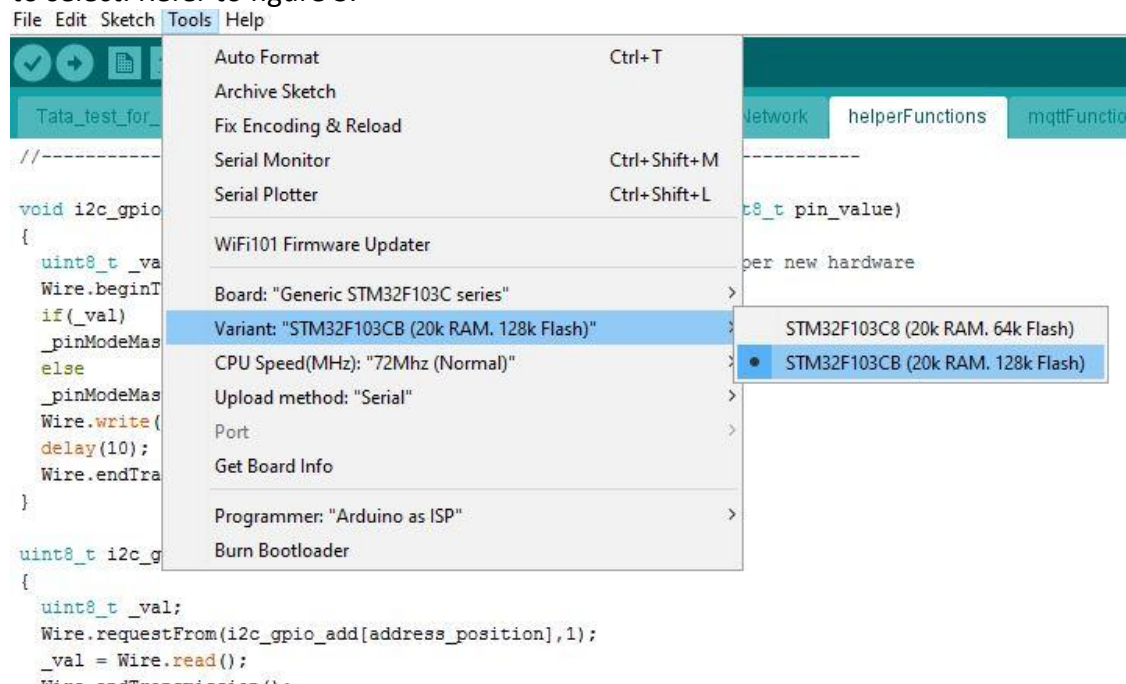

Figure 3: Variant Selection
- Click on tools tab, move mouse pointer to “Variant: “xxxxx”, under this click on “STM32F103CB” to select. Refer to figure 3.